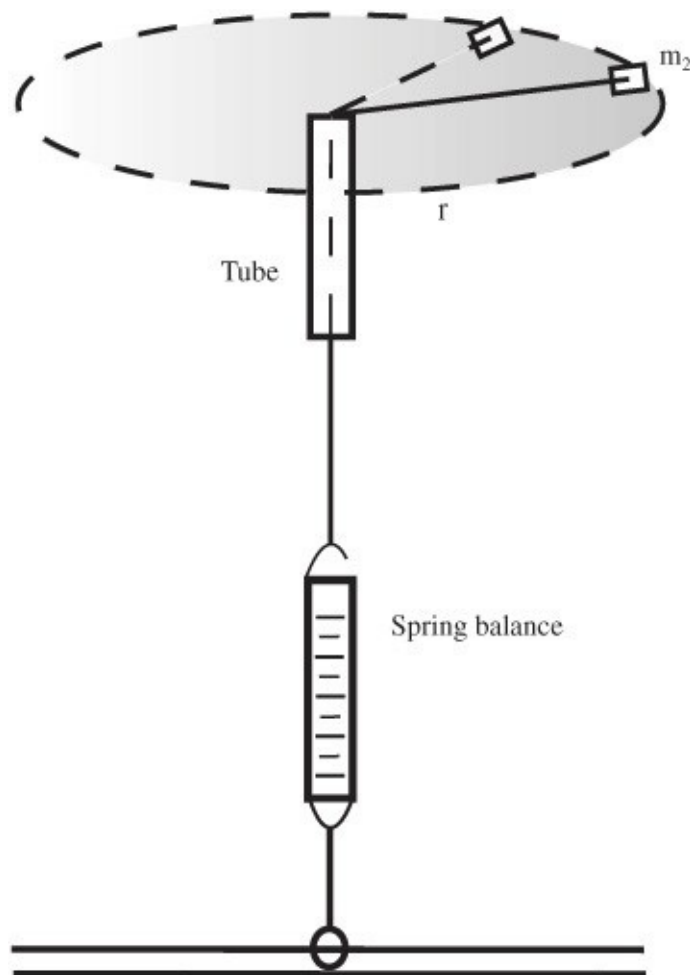

Figure 13-2 Using a spring scale to measure centripetal acceleration.
- The other approach is to measure the force directly using a spring scale, as indicated in Figure 13-2. In this case, you need to coordinate your movements, so the force stays nearly constant for a given measurement. (Note: Holding the string at an angle slightly off vertical can introduce just enough friction to stabilize the reading while introducing an error of only a few percent.)
2. Attach the bottom of the spring balance to a clamp on the table and the other end to the string coming from the tube. See the previous Figure 13-2.